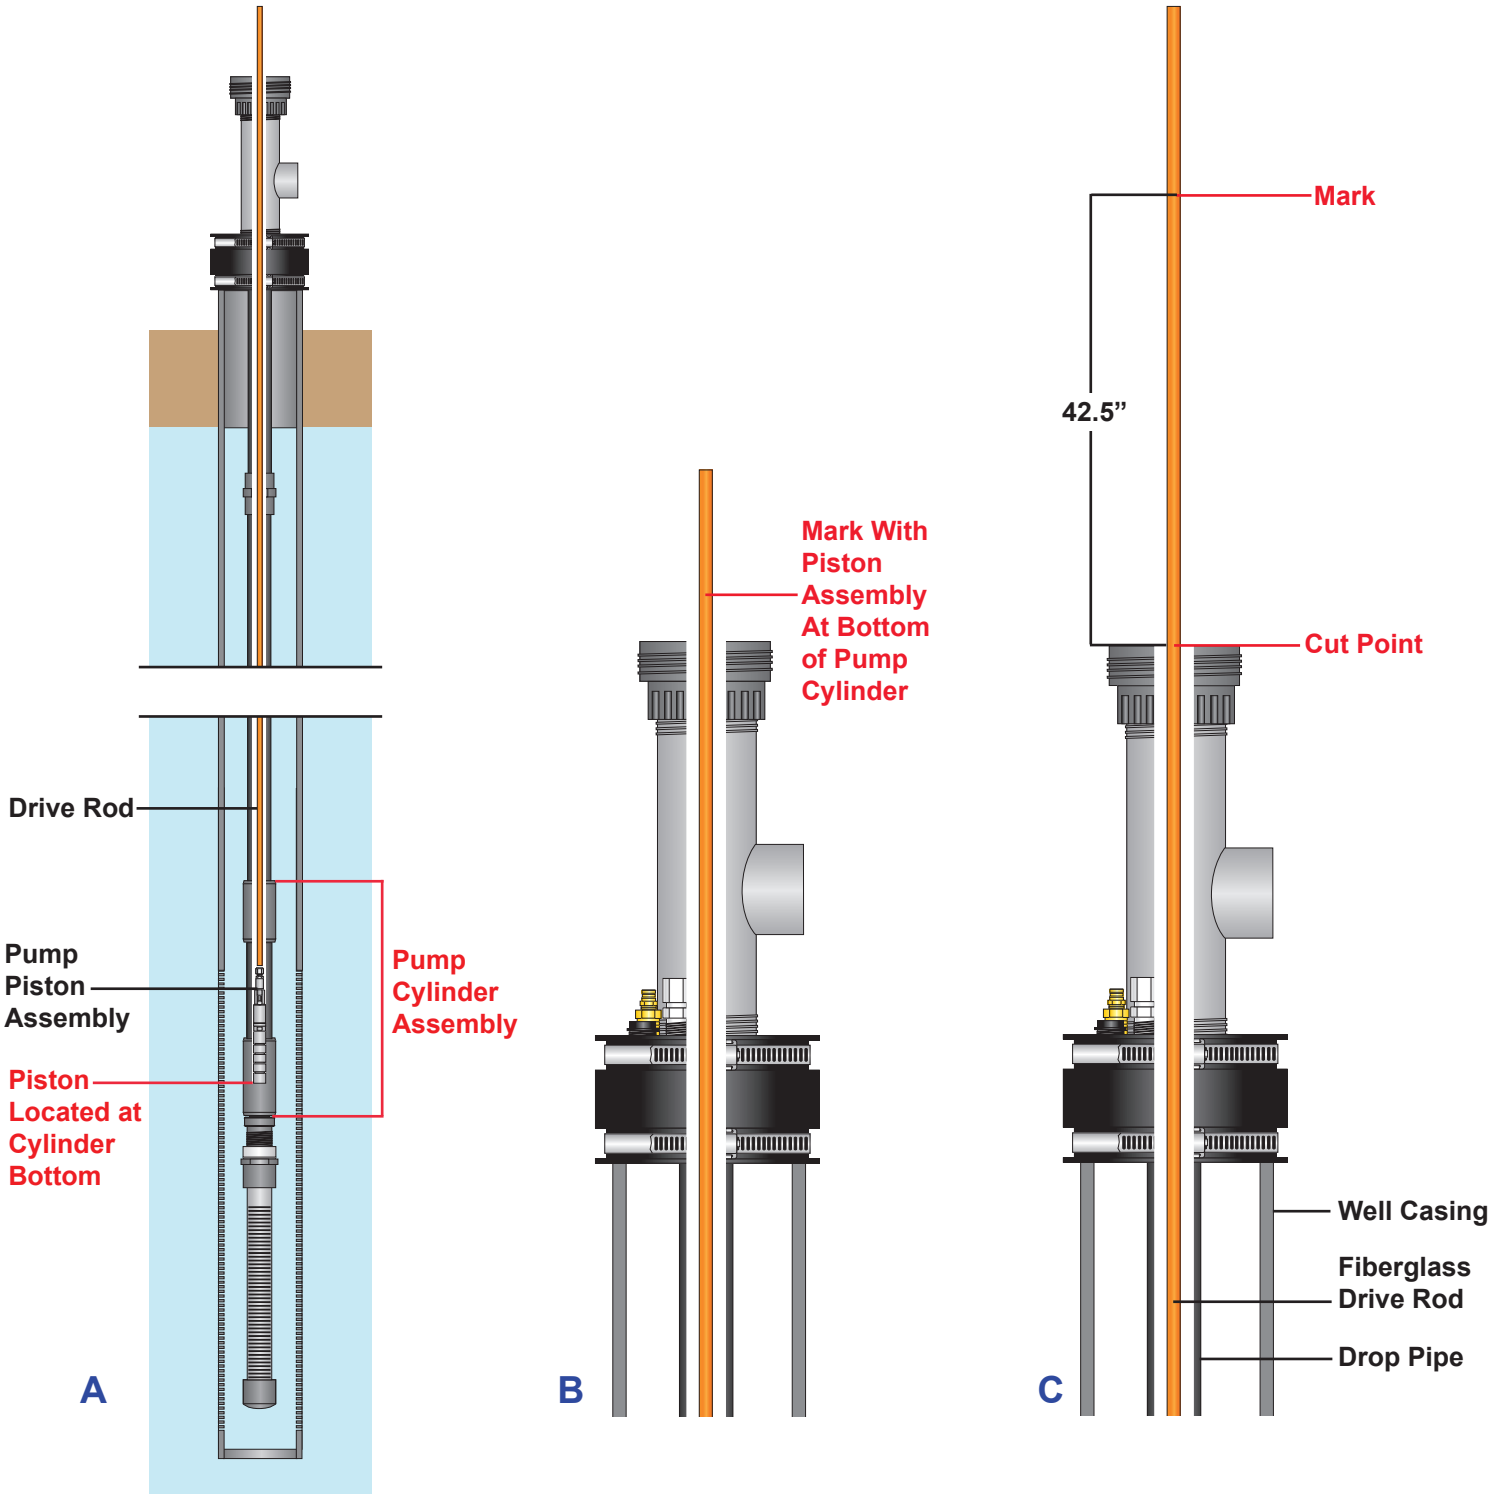

Figure 16
19. With the piston resting at the bottom of the pump cylinder, using a marker, mark the drive rod at the center of the wellhead assembly union (Figure 16 A & B). Raise the drive rod up 20 feet and lay the top end of the drive rod flat on the ground. Hold the drive rod at the wellhead so it will not fall back in the well. From the mark, measure 42.5" toward the well. Using a hack saw, cut the drive rod at this point (Figure 16 C).